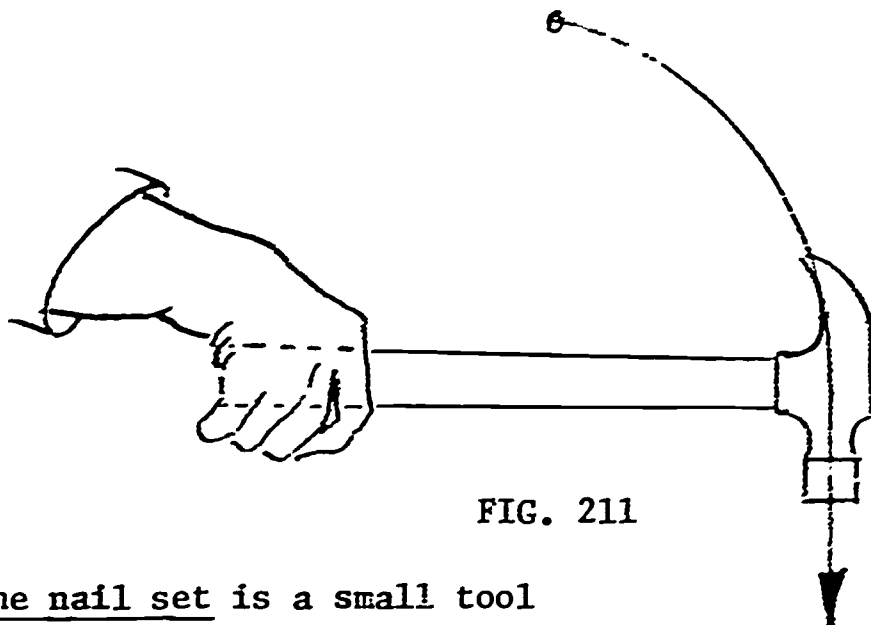

FIG. 211
5. The nail set is a small steel instrument used for driving the finish nail below the surface of the wood so that the resulting hole can be filled and sanded smooth. Proper nail setting results in almost obscured nail holes. See figures 211, 212.